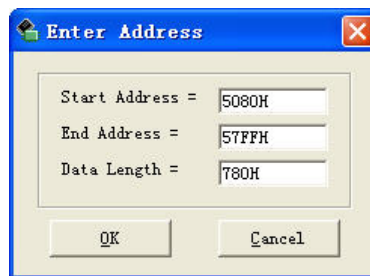

Figure 6-2: Enter Address
- Step 1: Click upload the software will prompt enter start address, end address and data length (refer to Figure 6-2). Enter two items of the start address, end address and data length to upload designate QzROM area. Use default value read all QzROM area of target MCU.